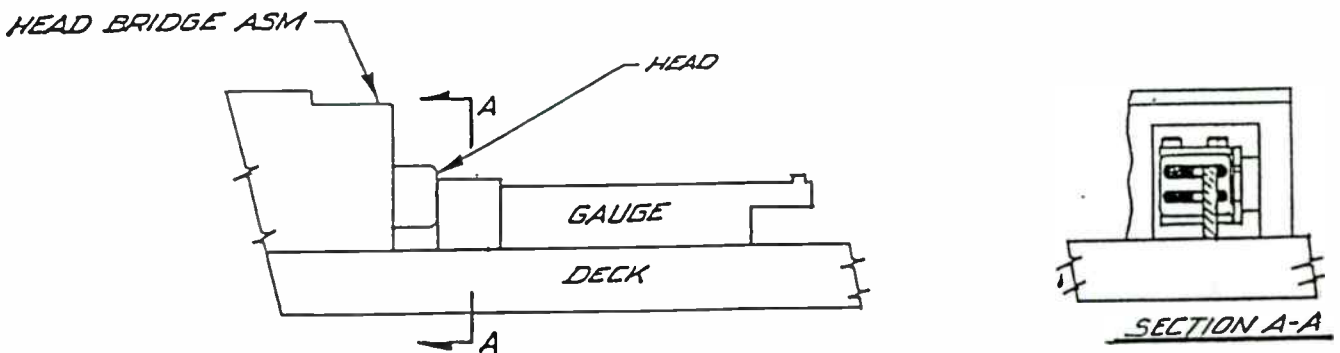

Figure 4
- D. Using the Tape Guide/Head Alignment Gauge (P/N 710-AO-001), turn the zenith adjustment until the front of the tape head is parallel to the front of the gauge. See figure 4.